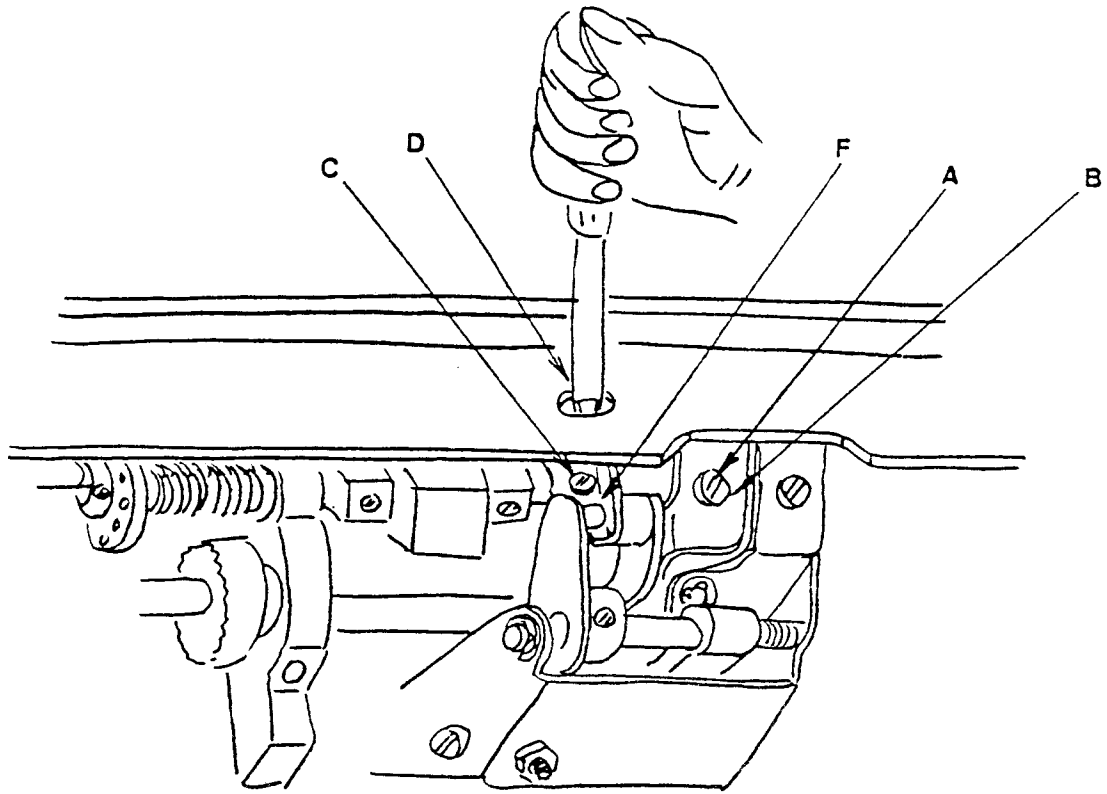

Fig. 26-1
1. Loosen screw (A). (Fig. 26-1).
2. Push feed control cam support (B), very lightly, into contact with feed control cam.
3. Tighten screw (A).
1. Loosen feed regulator shaft crank set screw (C). (Fig. 26-1).